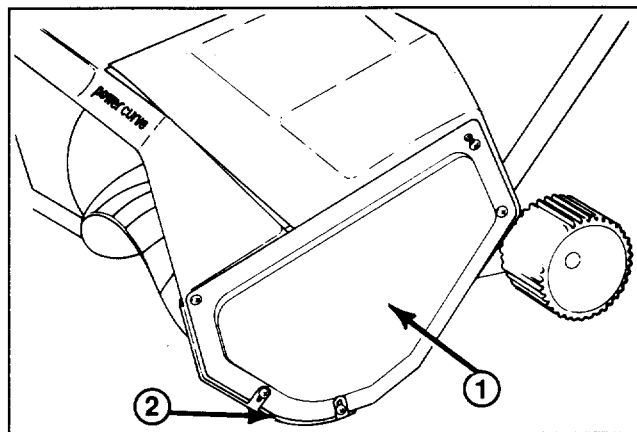
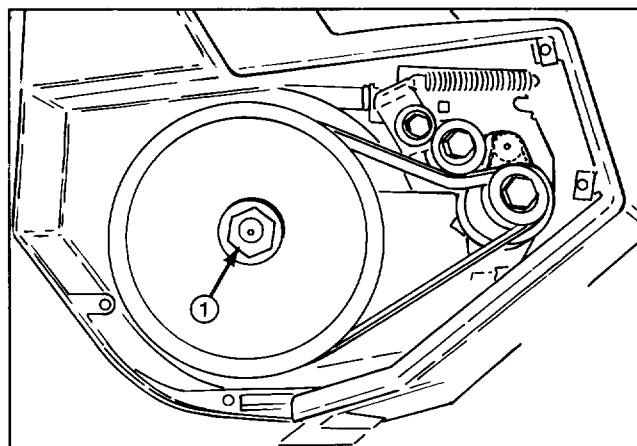

Figure 12
Figure 13
Note: If unable to remove rotor shaft by holding rotor, remove left side cover and skid (Fig. 12) and hold hex nut with a 7/8" wrench while unscrewing rotor shaft (Fig. 13).
1. Remove (5) screws securing left side plate to snowthrower frame (Fig. 12). Remove side plate and skid.
1. Remove (5) screws securing left side plate and skid to snowthrower frame (Fig. 12). Remove side plate and skid.